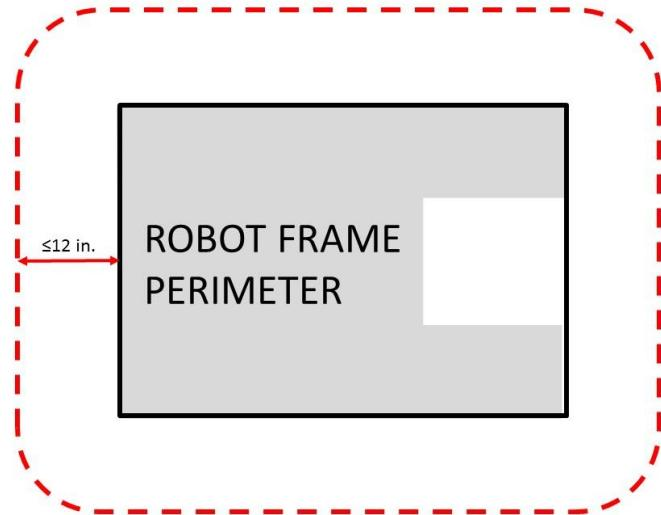

Figure 9-1 FRAME PERIMETER extension
**R4.** ROBOTS may not extend more than 12 in. (~30 cm) beyond their FRAME PERIMETER (see Figure 9-1)